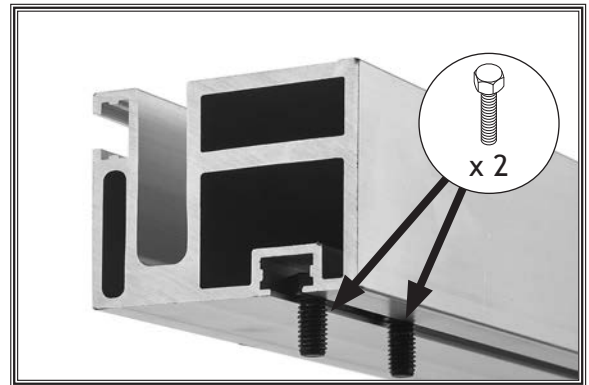

Figure 20. Location of hex bolts for mounting switch.
- Remove (2) M8-1.25 x 16 hex bolts from switch and insert into bottom slot on left end of fence rail (see **Figure 20**). These will be used later for mounting the switch.